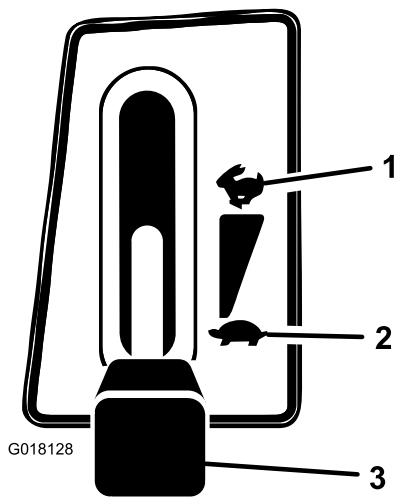

Figure 10
1. Push the blade control (PTO) to the Off position (Figure 10).
2. Shift the throttle lever to Slow (Figure 10).
5. After the engine starts, slowly shift the throttle lever to Fast and push in the choke lever (Figure 10). If the engine stalls or hesitates, shift the throttle lever back to Slow and pull out the choke lever for a few seconds and then shift the throttle lever to Fast. Repeat this step as required.
1. Shift the throttle lever to Slow (Figure 10).